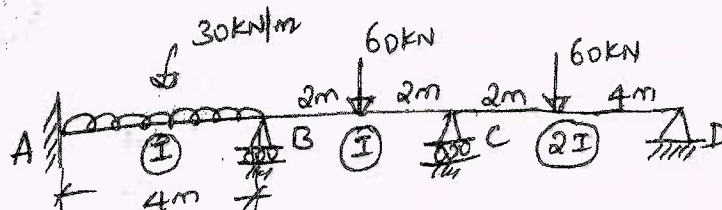

Fig.Q3
- 3 Determine the moments for the given continuous beam shown in Fig.Q3 by moment distribution method. Sketch BMD.